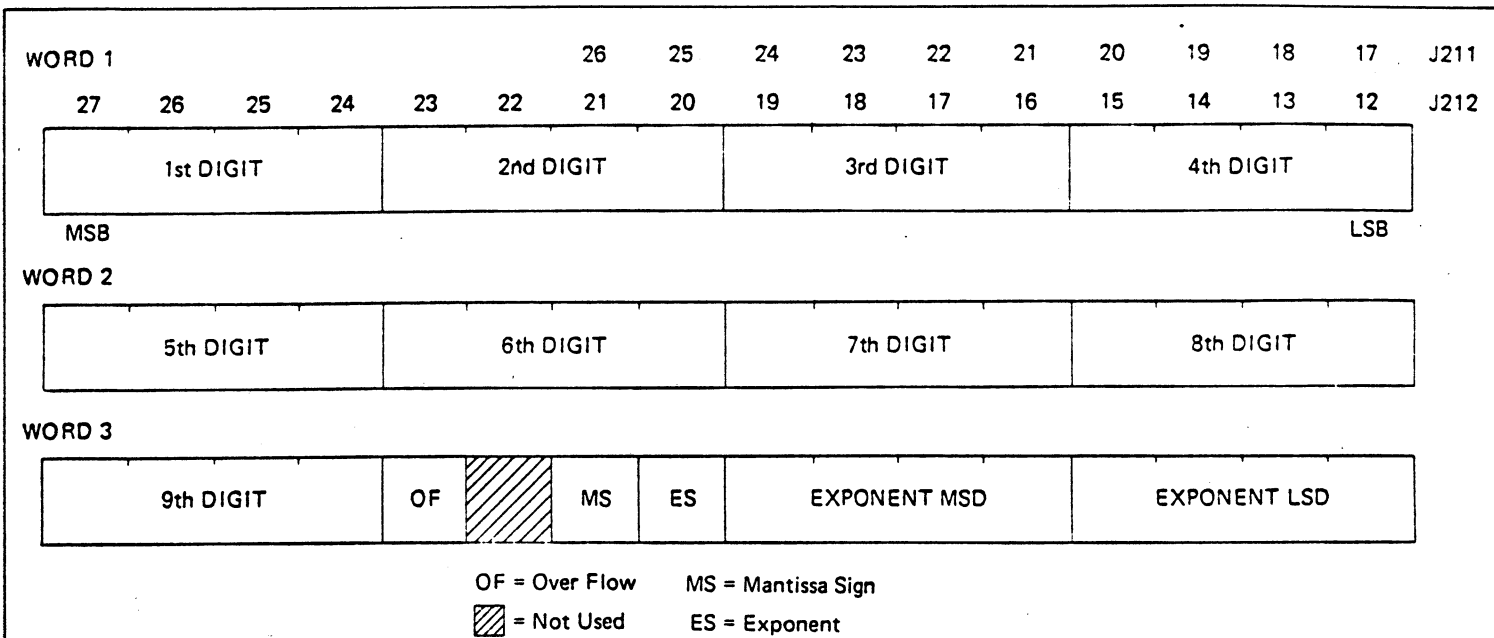

Figure 3.22 - Option 56 Pin Description (16-Bit MUX Mode)
3.4.3.2 The connector and pin assignments for the 16-bit data bus and the output word formats are shown in Figure 3.22. Note that at the top of the illustration the J211 and J212 pin assignments are shown for the measurement data when transmitted in the 16-bit MUX mode. The J211 and J212 connector pins are not connected internally; this